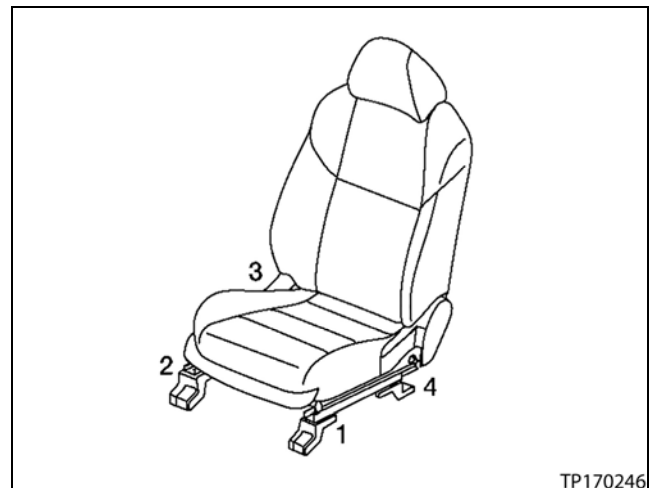

Figure 1
- Torque the bolts in the sequence shown in Figure 1.